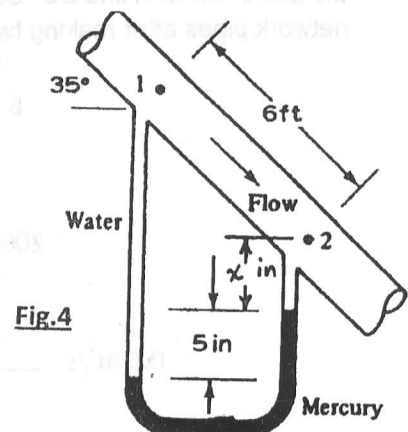

Fig.4
- C) Water flows at a rate of 10 cfs in the pipe shown in fig.4. If the pipe diameter is 6 in and the coefficient of friction of the pipe material is 0.03, find a) the head losses between 1 and 2 neglecting minor losses; b) the difference in pressure between points 1 and 2 and c) check if the flow is laminar or turbulent? Consider kinematic viscosity = $0.01 \text{ ft}^2/\text{sec}$.